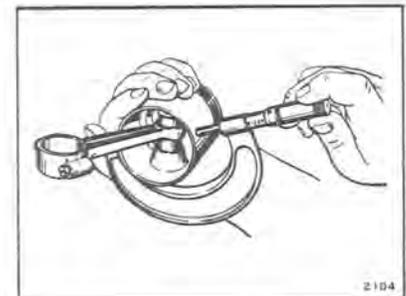

Figure 9-13
- b. Check pistons for roundness, taper, excessive skirt wear, and scoring. Piston skirts must be perfectly round and unscratched to prevent entry of exhaust gases into crankcase chamber. Check piston size, taper, and roundness, using a micrometer (see Figure 9-13). Check clearance between piston and cylinder before reinstalling piston (see Figure 9-14). Check tolerances on spec. sheet page 2-2.